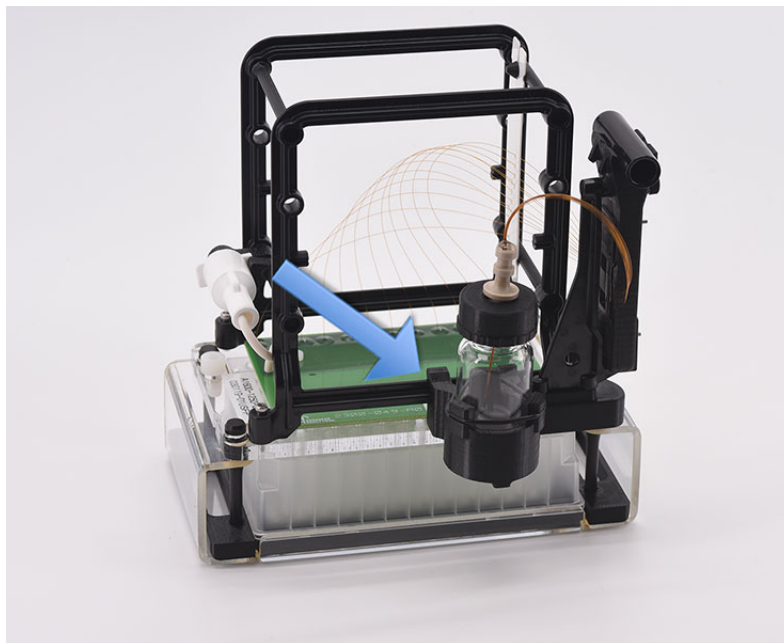

Figure 115 Array spindle storage device installation
- 7 Slide the array spindle storage device onto the capillary array front rail located to the left of the capillary array window as shown in **Figure 115**.